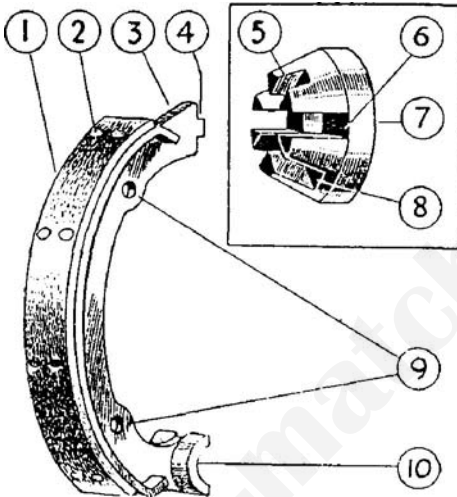

FIG. 65. SHOWING 1945-7 BRAKE SHOE WITH THRUST-COLLAR ADJUSTMENT
Brake Shoe Adjustment (1945-7 Models). To rectify loss of braking efficiency which cannot be rectified by the hand-type adjuster it is necessary to effect a major adjustment of the thrust collar fitted to the tongue of each brake shoe. The adjustment is the same for the front and rear brakes, and details of the adjustable thrust-collar are shown in Fig. 65. As may be seen, each thrust collar (7) has machined slots (5), (6), (8), of different depth.
Referring to Fig. 65, to effect a major brake-adjustment it is necessary to remove each thrust collar from the tongue of its shoe and turn the collar so that the slot next less in depth engages the brake shoe (3) on replacing the shoe. Where the brake linings are badly worn, the two shallow slots (5) are suitable. If no wear of the brake linings has occurred, use the two deep slots (6). If only moderate wear of the linings is present, it is advisable to make use of the two medium-depth slots (8). It should be noted that the tongue (4) enters the centre of the thrust collar (7).
KEY TO FIG. 65